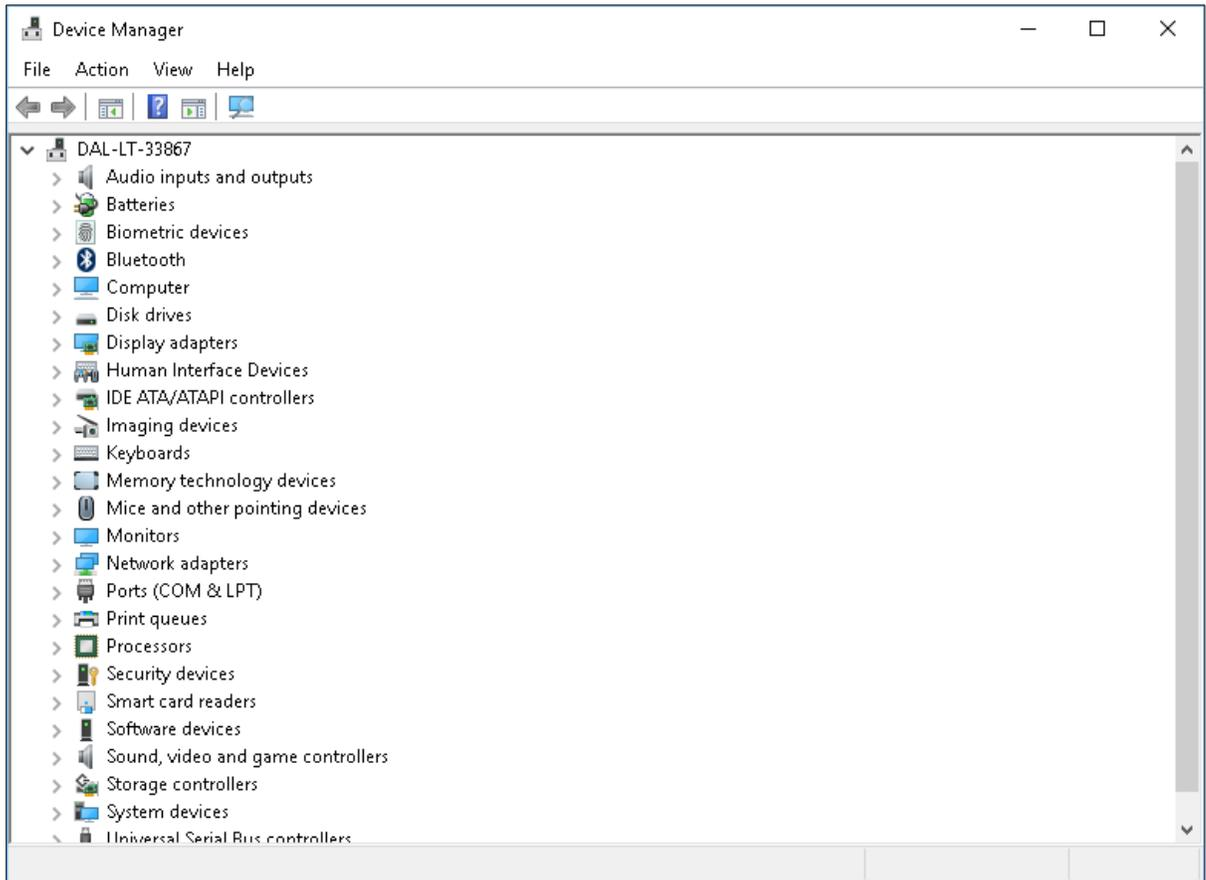

Figure 12. Device manager window.
1. Select **Start > Control Panel > Device Manager**. The Device Manager window appears, as shown in **Figure 12**.